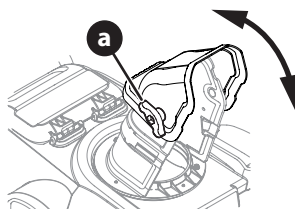

Figure 14
1. Loosen wing nut (a) (Figure 14).